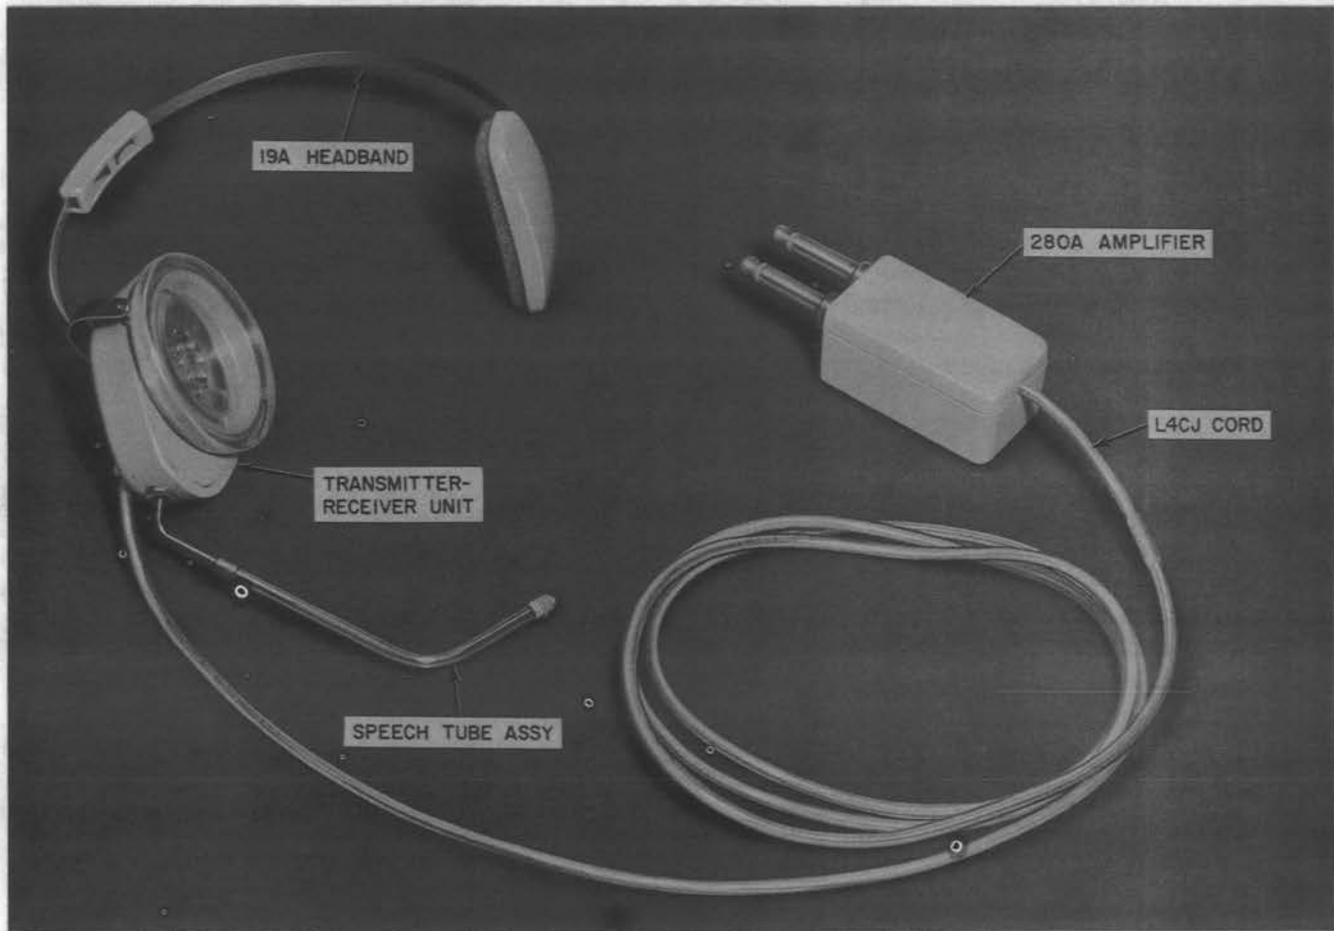
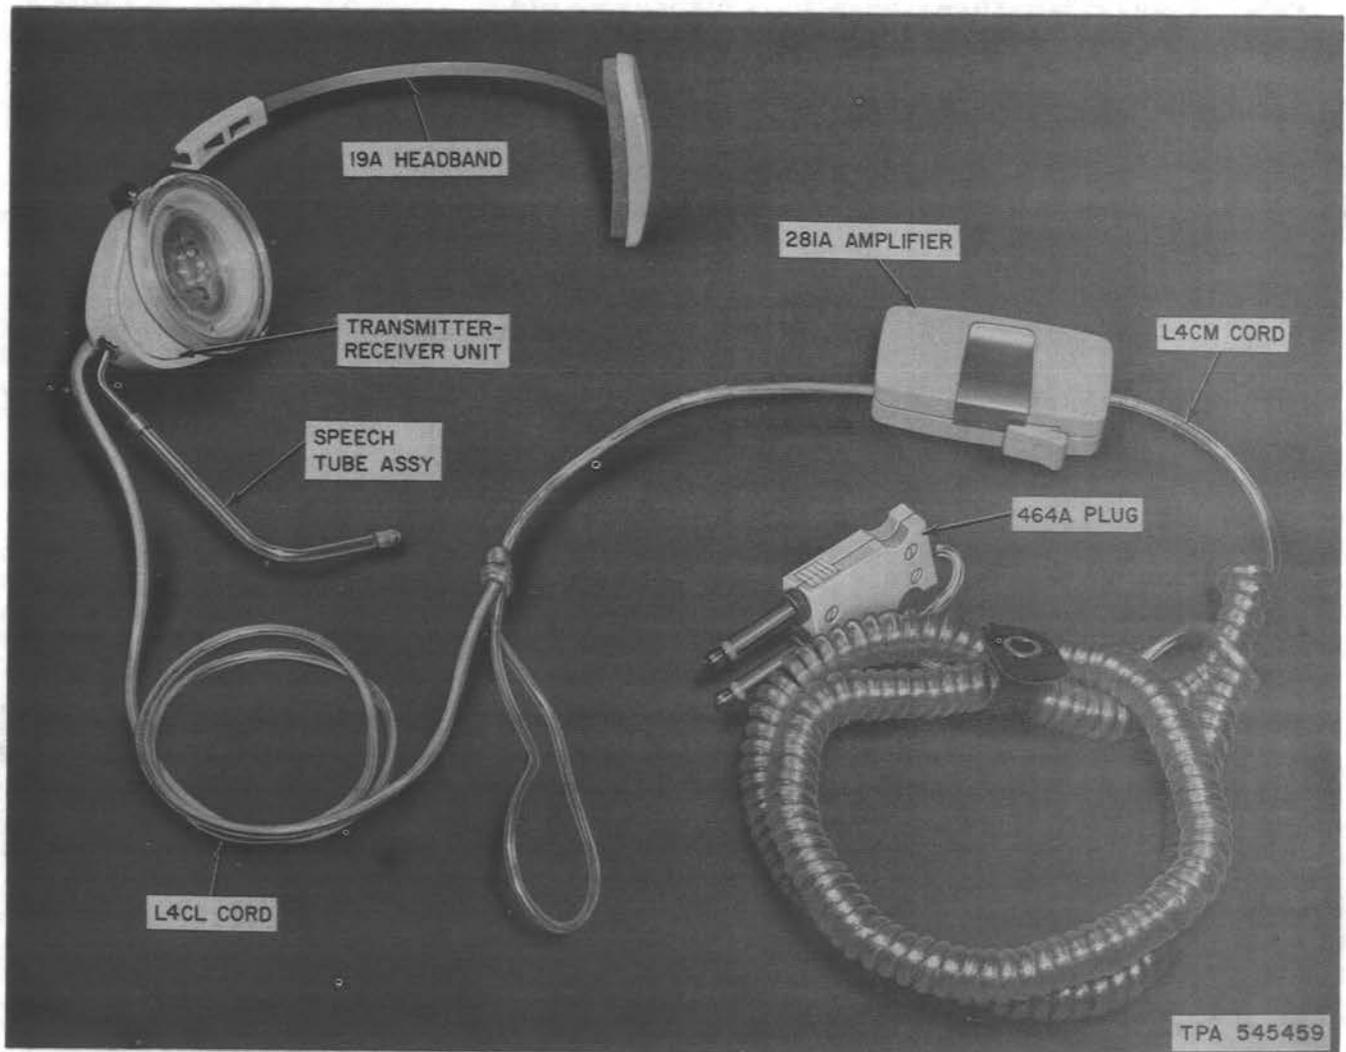

Fig. 1—60A Head Telephone Set
Fig. 2—60B Head Telephone Set
- Revise Fig. 2
1.03 The 60A (Fig. 1) and 60B (Fig. 2) headsets are supported by a lightweight, adjustable headband. The housings contain an LB-type receiver unit, a 104A varistor, and an AE1 transmitter unit. Sound is transmitted from the mouth to the transmitter by means of a clear plastic tube which can be rotated and adjusted for length.
| 1 | Inspect for the presence of all parts (See Fig. 1 and 2) | Replace headset or parts. |